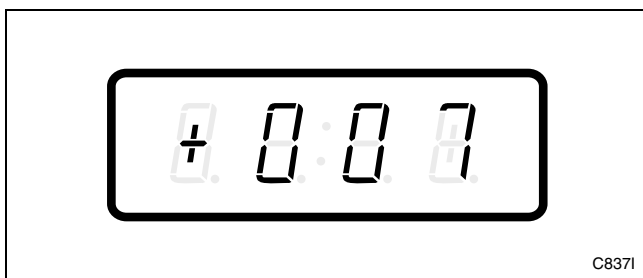

Figure 37
3. Press the LOW TEMP (+) or the NO HEAT (-) keypad to scroll through the programmable options until “+007” appears in the VFD. Refer to *Figure 37*.